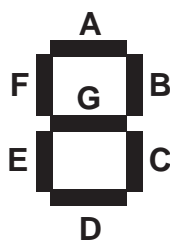

Figure 2
- D0...D17; D0 is the most left seven segment digit, the possible numbers displayed by one digit are shown in figure 2. The symbol (_) is only displayed at D13, D14, D16 and D17 when setting the clock.